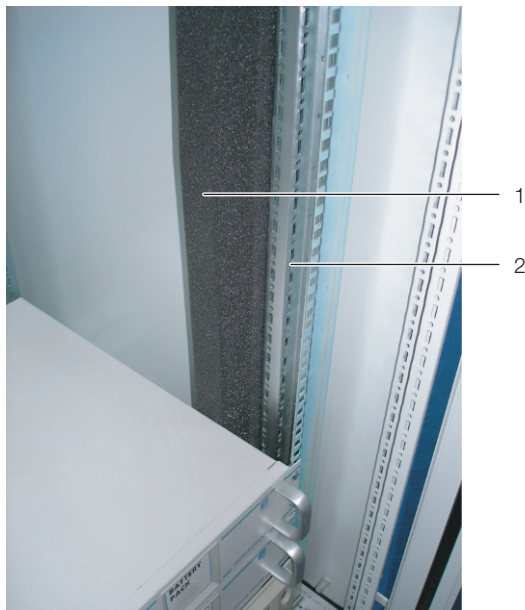

Fig. 15: Foam strip on a server rack upright
- Fasten the wider (Model No. 3301.370 / 3301.320) of the two foam strips from the LCP DX accessories onto one of the front uprights of the server rack from the outside (fig. 15). Make sure to install this strip on the side of the server enclosure onto which the LCP DX is to be bayed.
- **If you are only baying the LCP DX on one side:** Fasten the narrower (Model No. 3301.380 / 3301.390) of the two foam strips from the LCP DX accessories onto one of the front uprights of the server rack from the outside (fig. 15). Make sure to install this strip on the side of the server enclosure which will again be sealed by a side panel.